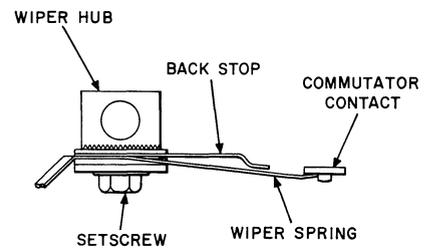
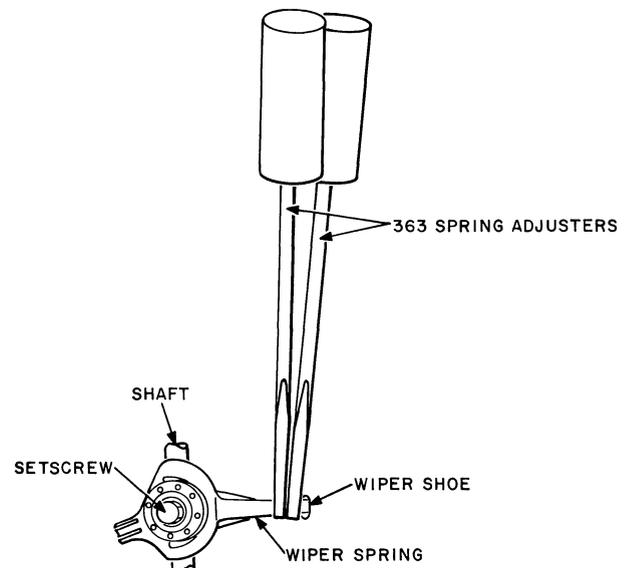

Fig. 17 — Position of Commutator Wiper Spring on Commutator Contacts
Fig. 18 — Method of Adjusting Wiper Shoe to Rest Approximately Flat on Commutator Contact
(6) When finally adjusted, the shape of the commutator wiper spring and its position on the commutator contacts should be as shown in Fig. 17. Adjust the wiper spring on the associated commutator contacts by changing the offset near the end of the spring with two 363 spring adjusters applied as shown in Fig. 18.